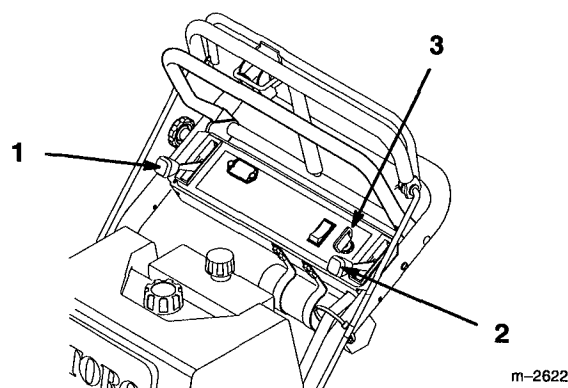

Figure 11
1. Move the throttle lever to "SLOW" (Fig. 11).
2. Turn the ignition key to "OFF" (Fig. 11).